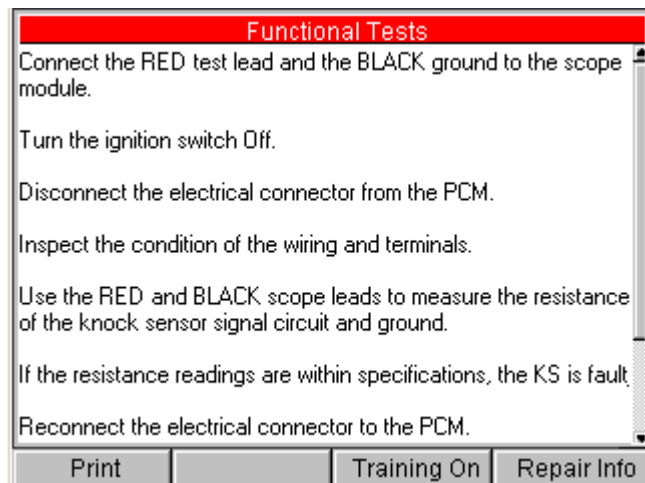

Figure 4.4: Functional Tests Screen
- 5 One or more additional screens may appear for identifying the component. On each screen that appears, **select the correct option** and then press the **ENTER** key. Do this until the component is completely identified and the Functional Tests screen appears (Figure 4.4).